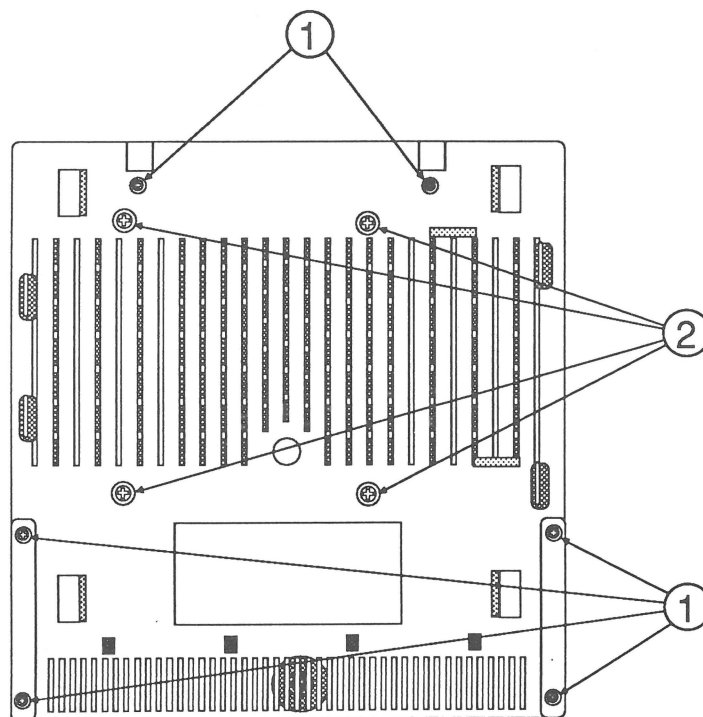

FIGURE 1
3. Remove the six Phillips screws (Figure 1, #1) that secure the top case to the bottom case.
4. **If you are replacing the disk drive, logic board, or eject button**, remove the four Phillips screws (Figure 1, #2) that secure the disk drive to the bottom case.